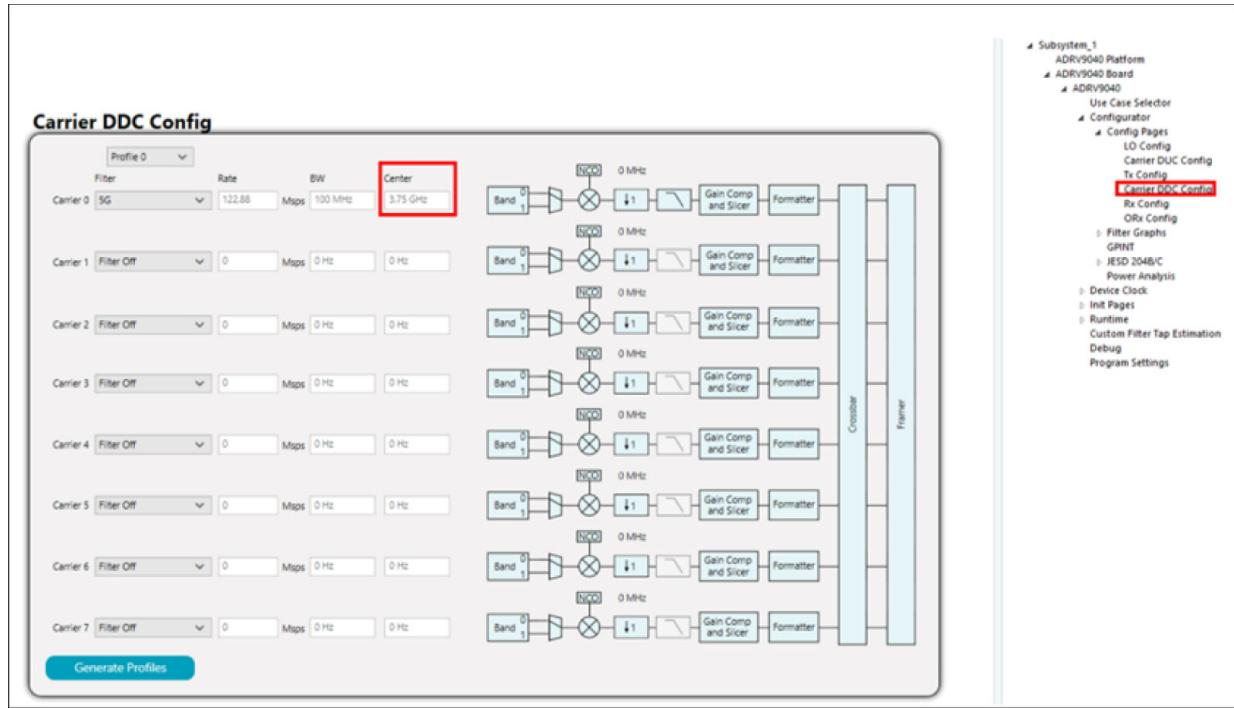

Figure 19. Carrier DDC Config Page
4. This step is optional for profiles with CDUC/CDDC enabled only. Go to **Carrier DUC Config** as shown in Figure 18 and **Carrier DDC Config** as shown in Figure 19, and update carrier NCO frequencies.